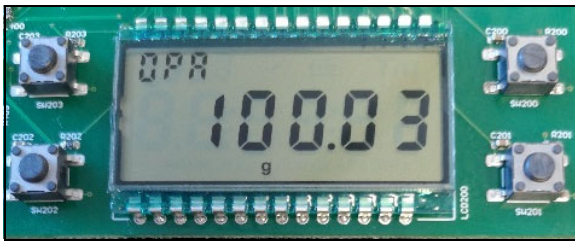
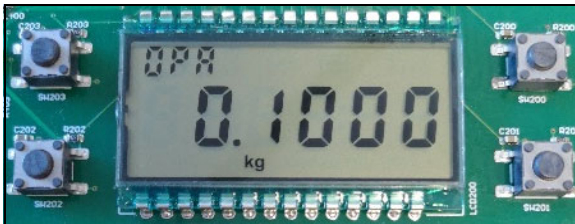

FIGURE 14: LCD Menu - Grams.
FIGURE 15: LCD Menu - Kilograms.
- the measured weight in grams (Figure 14) and in kilograms (Figure 15),